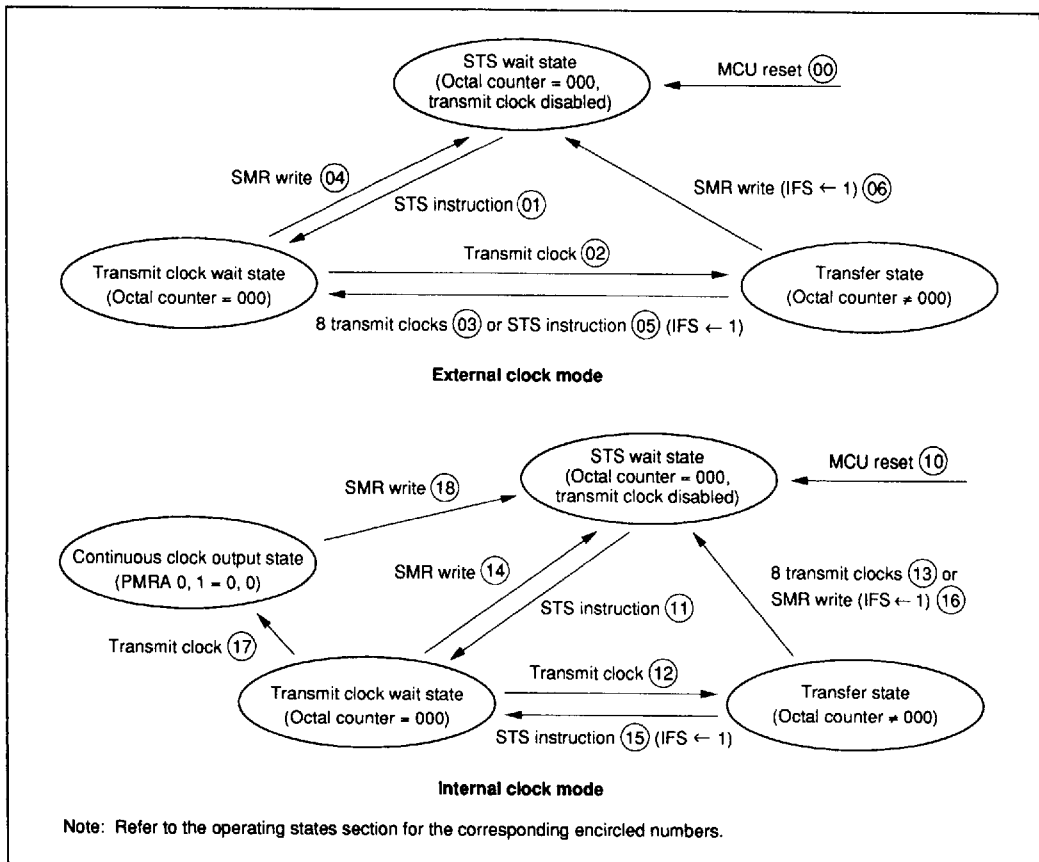

Figure 42 Serial Interface State Transitions
**Serial Interface Operating States:** The serial interface has the following operating states shown in figure 42, both in external clock mode and internal clock mode.
- STS wait state: The serial interface is put into the STS wait state by an MCU reset (00, 10 in figure 42). While in this state, the serial interface is initialized and does not operate, even if a transmit clock is provided. If an STS instruction is executed while in this state (01, 11), the serial interface transfers to the transmit clock wait state.
- Transmit clock wait state: Transmit clock wait state period starts from when an STS instruction is executed until the first transmit clock falling edge. While in the transmit clock wait state, if the transmit clock is input (02, 12), the octal counter is incremented by the transmit clock, the data in the serial data register shifts, and the serial interface enters the transfer state. However, note that if continuous clock output mode is selected in internal clock mode, the serial interface does not enter transfer state but enters continuous clock output state (17).